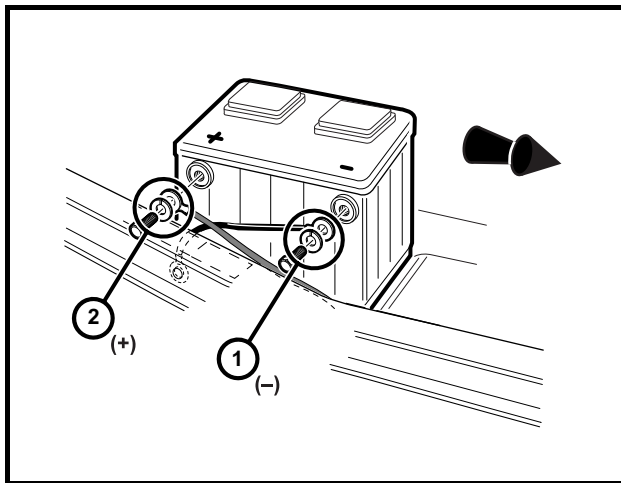

Figure 1-1 Disconnect Battery – Gasoline Vehicle
- Disconnect battery cables, negative (-) cable first (Figure 1-1, Page 1-3).
2. Disconnect the battery cables, negative (–) cable first, as shown (**Figure 1-1, Page 1-3**).